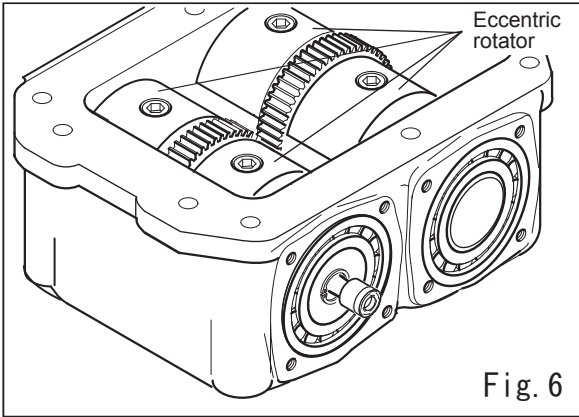

Fig. 6
- e. Remove the eccentric rotator (13) from each rotary shaft (Fig. 6)